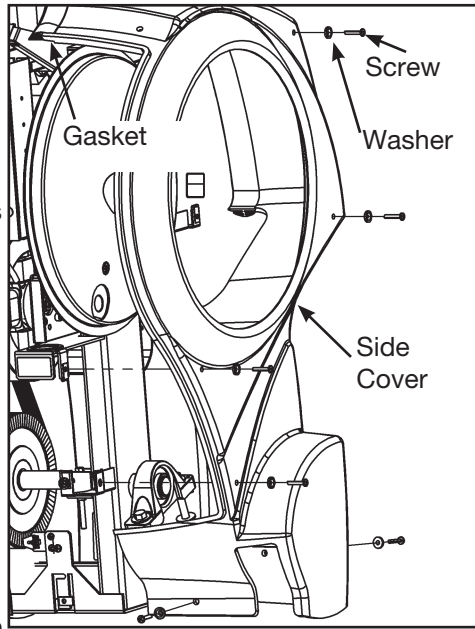

Figure 4
A. Remove the six screws and six washers securing each side cover in place. See Figure 4.